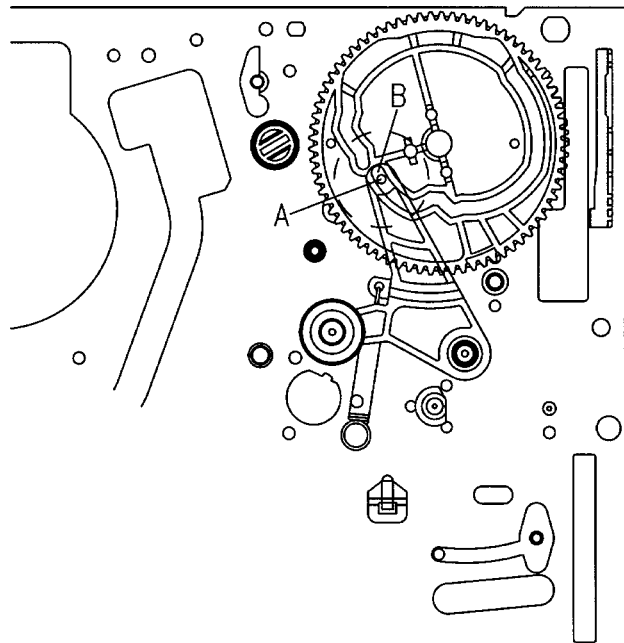

Fig. 4 Mechanical Checks/Pinch Lever and Cam Gear Alignment
4. Make sure that the boss "A" of the Pinch Lever Total Ass'y is positioned at the point "B" of the cam gear in EJECT mode. (Fig. 4)